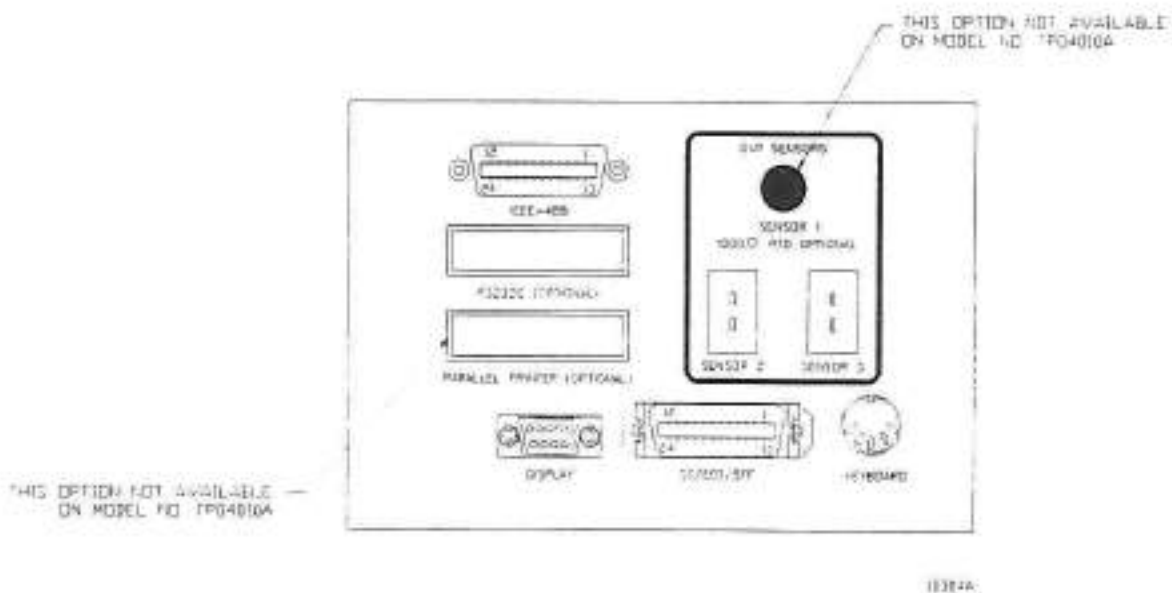

Figure 2-8. System I/O Panel
2. Plug the other end of the thermocouple wiring into the **SENSOR 2** connector on the system I/O panel (see Figure 2-8).